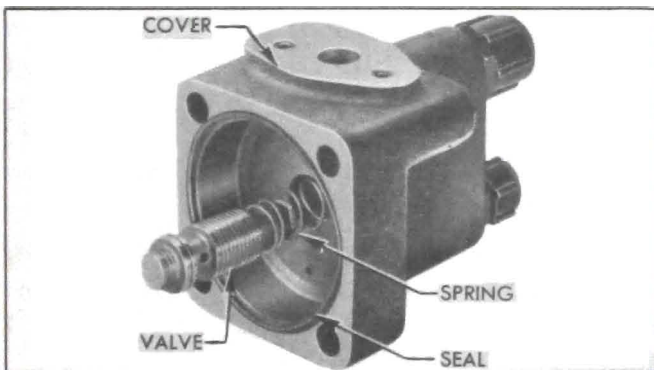

Figure 8-36—Pump Cover and Control Valve
3. Remove four bolts (no lockwashers) and separate the pump cover and O-ring seal from rotor ring and body, then remove the control valve assembly and spring from pump cover. See figure 8-36.